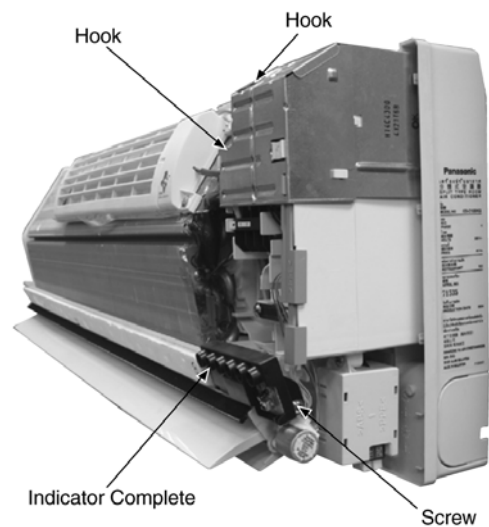

Fig. 3
- Release the taps on top and on the right side of metal plate cover. (Fig. 3)
- Then remove the metal plate cover. (Fig. 3)
- Remove the indicator complete screw, and then remove the indicator complete. (Fig. 3)